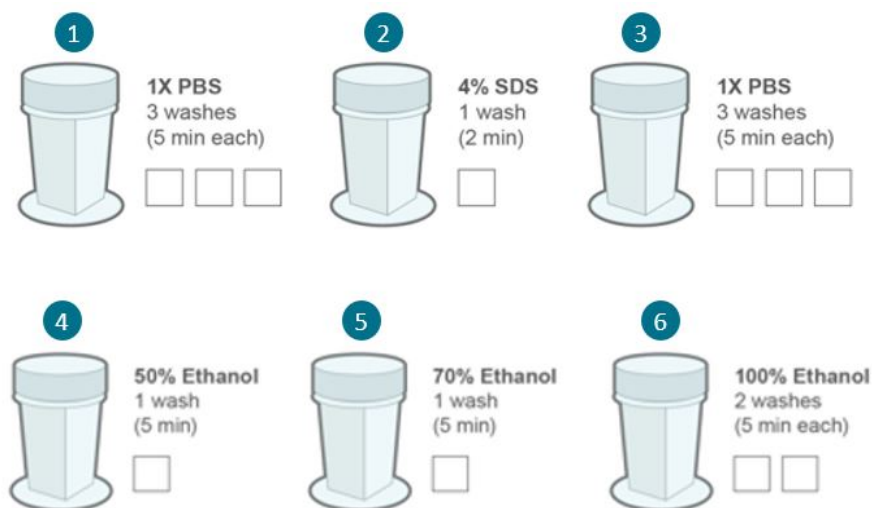

Figure 41: Rehydrate and Fix Tissue
1. After NBF fixation, **gently perform the following washes** using staining jars (Figure 41).